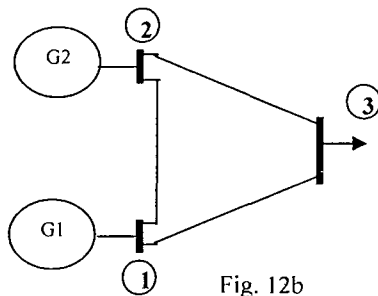

Fig. 12b
(b). The machine data and the line data for the system shown in fig. 12b are given in pu in Tables 12.1 & 12.2, respectively. The load flow data is given in Table 12.3. Using alternating solution approach compute the changes in phase angles of generators at time  $t = 0.03$  s for a three-phase fault at bus 2 which occurs at time  $t = 0$  s and clears itself at 0.1 s. Also the load is rejected at bus 3 at time  $t = 0$  s. Take the incremental time ( $\Delta t$ ) as 0.03 s. All values are on a 100 MVA base. (16)